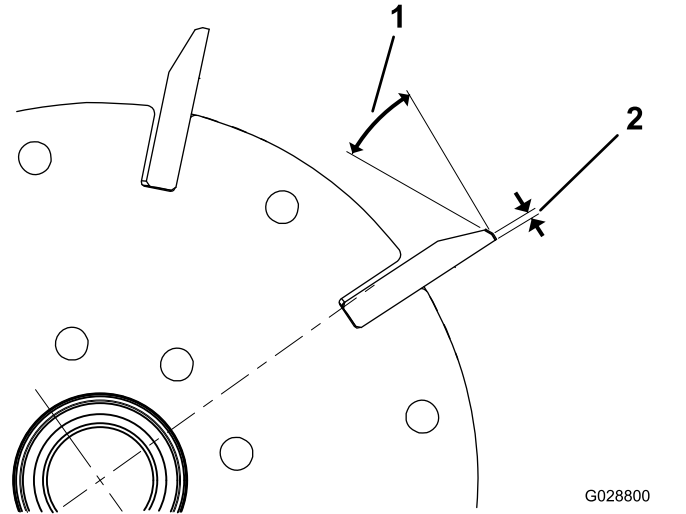

Figure 26
1. Apply a 30 degree relief grind on all reel blades until the land width is 1.3 mm (0.050 inch) wide (Figure 26).